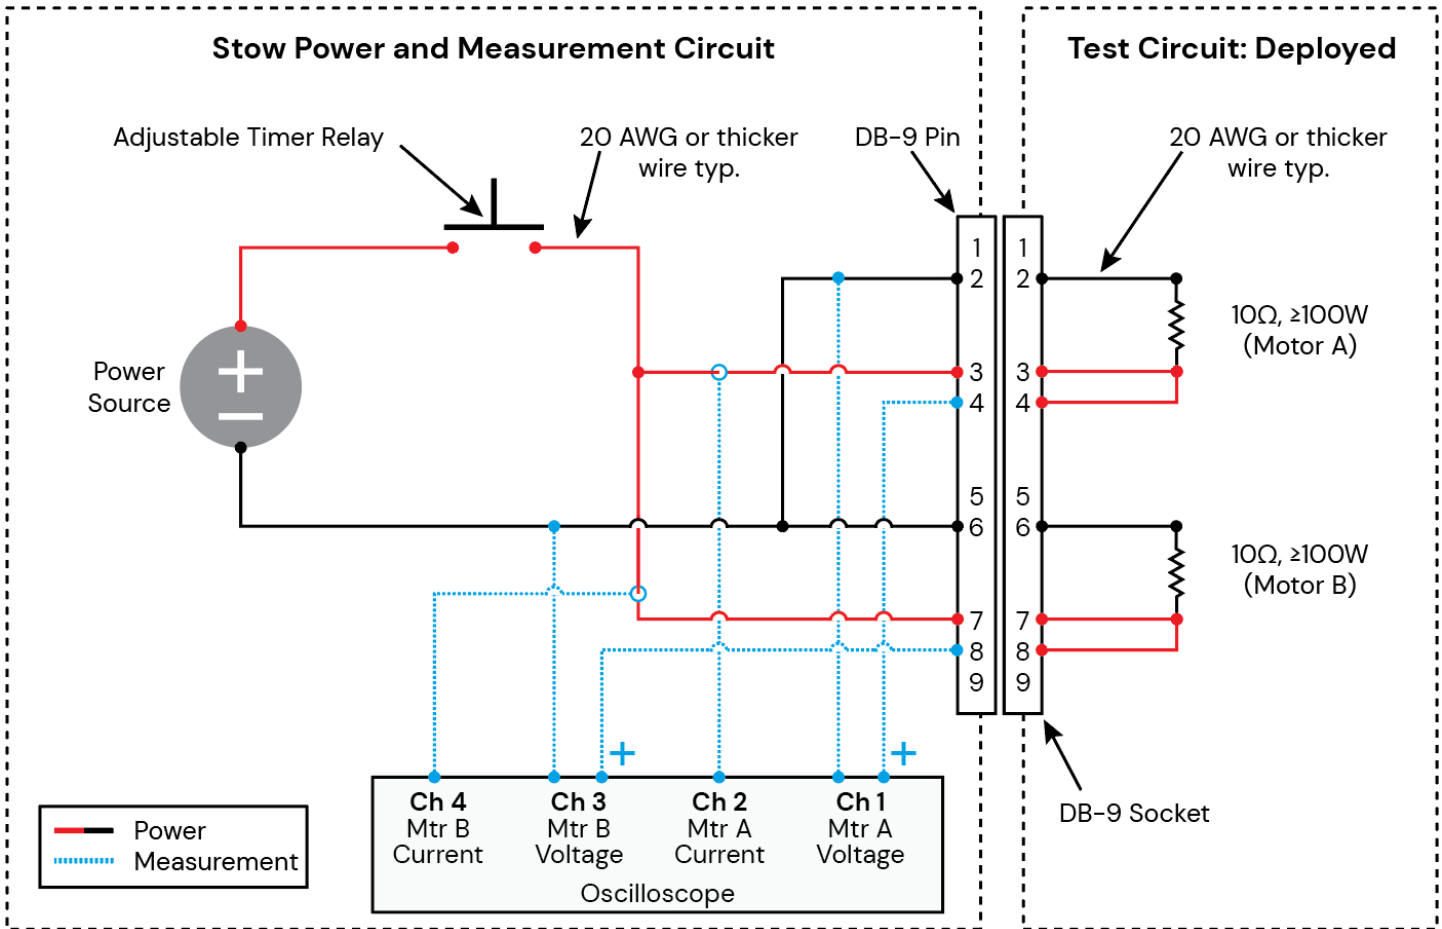

Figure 9-1: Stow test circuit #1
9.1.2	Set up the Stow Power and Measurement Circuit #1 per Figure 9-1.
9.1.4	Set up the Test Circuit: Deployed circuit per Figure 9-1